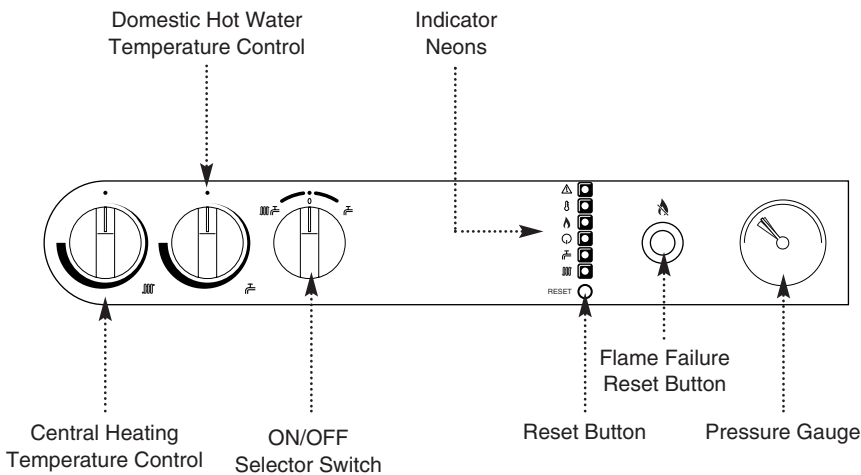

Fig. 2
8. The Burner ON indicator (🔥) will light when the boiler is operating and the main burner has lit (Fig. 2).